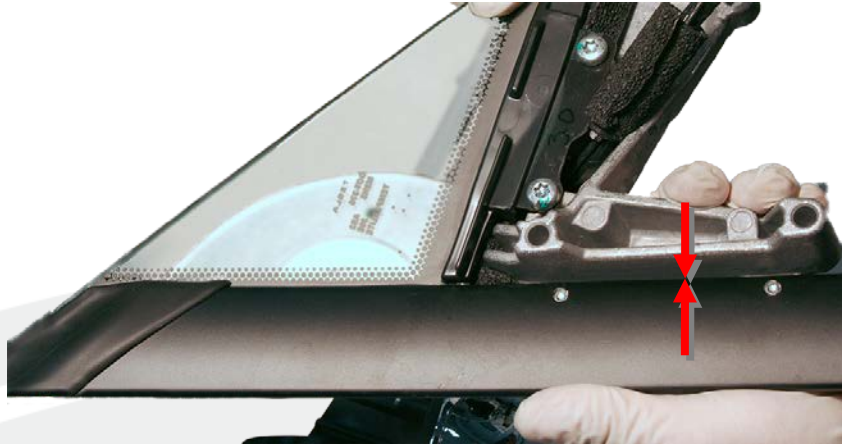

Figure 13
5. Hold the glass guide rail against the mirror while tightening the bolts (torque 6 Nm) (Figure 13).